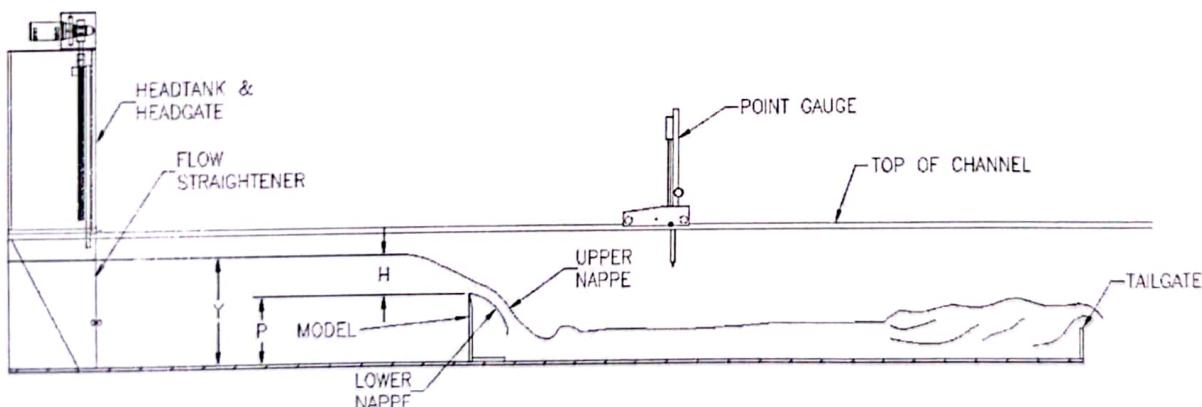

Figure 1 Installation
1. Initial settings (Fig. 1):
2. Mount the sharp crested weir model midway in the channel using two (2) #10-24UNC-2A x 0.625" long Round Head Machine Screws (RHMS) at the flanges.